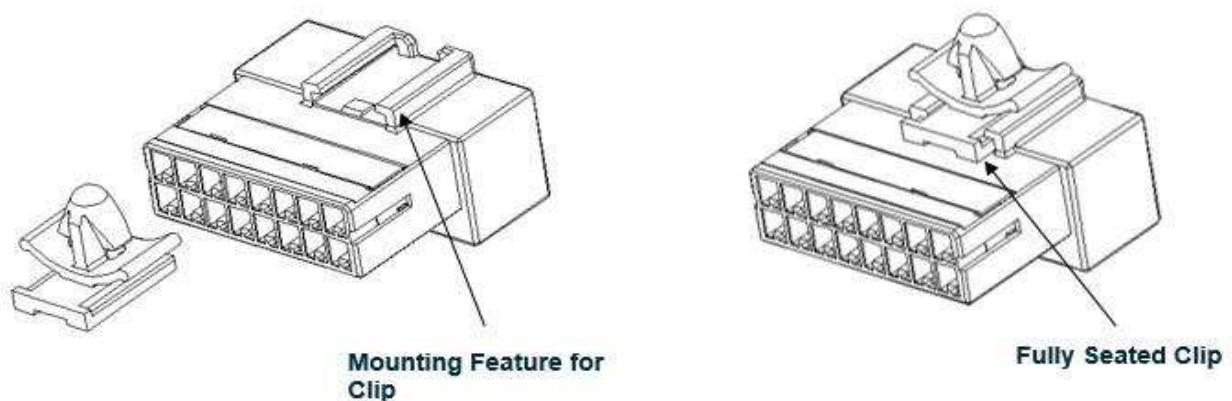

Fig. 2.
- (1) Align the Clip housing with mating face of the cap housing so that the latch faces the end of the mounting feature of the cap housing as shown in figure 2.
- (2) Slide the clip onto the mounting feature until it stops.